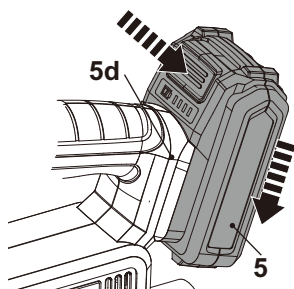

Fig. 5
1. Align the battery pack (5) with the sliding slots of the battery docking port (5d) and slide the battery pack in to attach it. Ensure it clicks in place (Fig. 5).